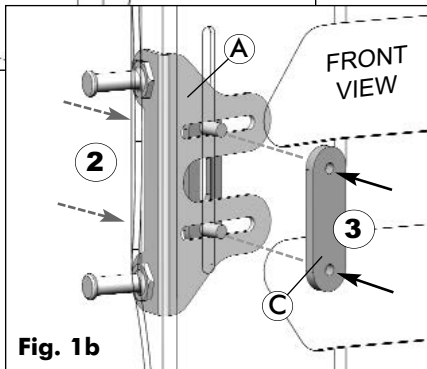

Fig. 1b
- From the rear of the back shell, install the 2 protruding screws from the mounting bracket through the vertical slot in the MX2 back shell (2); (Refer to Fig. 1b)
- To secure the mounting bracket to the Mx2 back shell, thread the screws into the nut plate (D) on the front (inside) of the back shell (3); (Refer to Fig.1b)
- 2 Install the remaining quick-release mounting bracket (A) onto the opposite side of the back shell (as per Step 1 above).